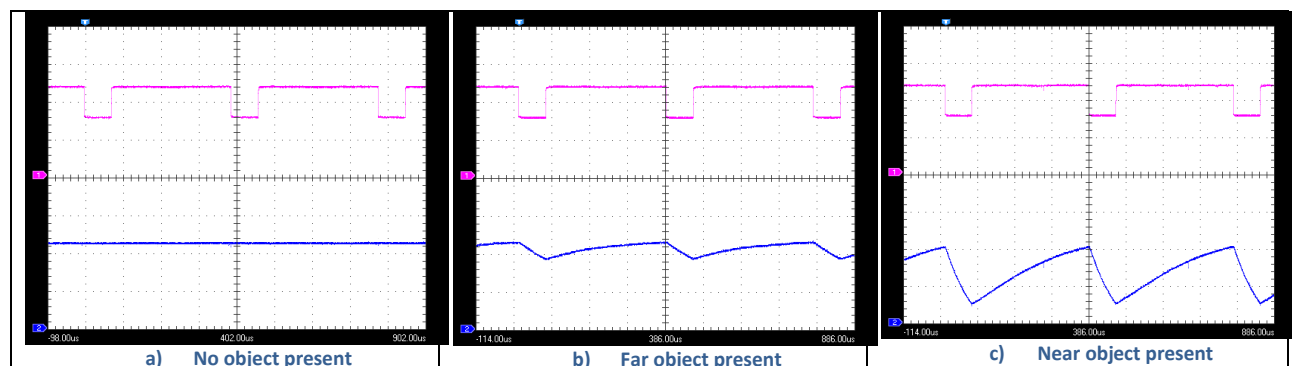

Figure 2. Oscilloscope screenshots showing IR Output Signal (upper trace) and IR Input Signal (lower trace).
5. The sensitivity of the proximity sensor increases as you wait longer to sample the phototransistor's voltage after changing the IRLED (see Figure 2 above). What is the impact of doubling the default on-time and off-time? Adjust the constants `T_LED_ON` and `T_LED_OFF`.